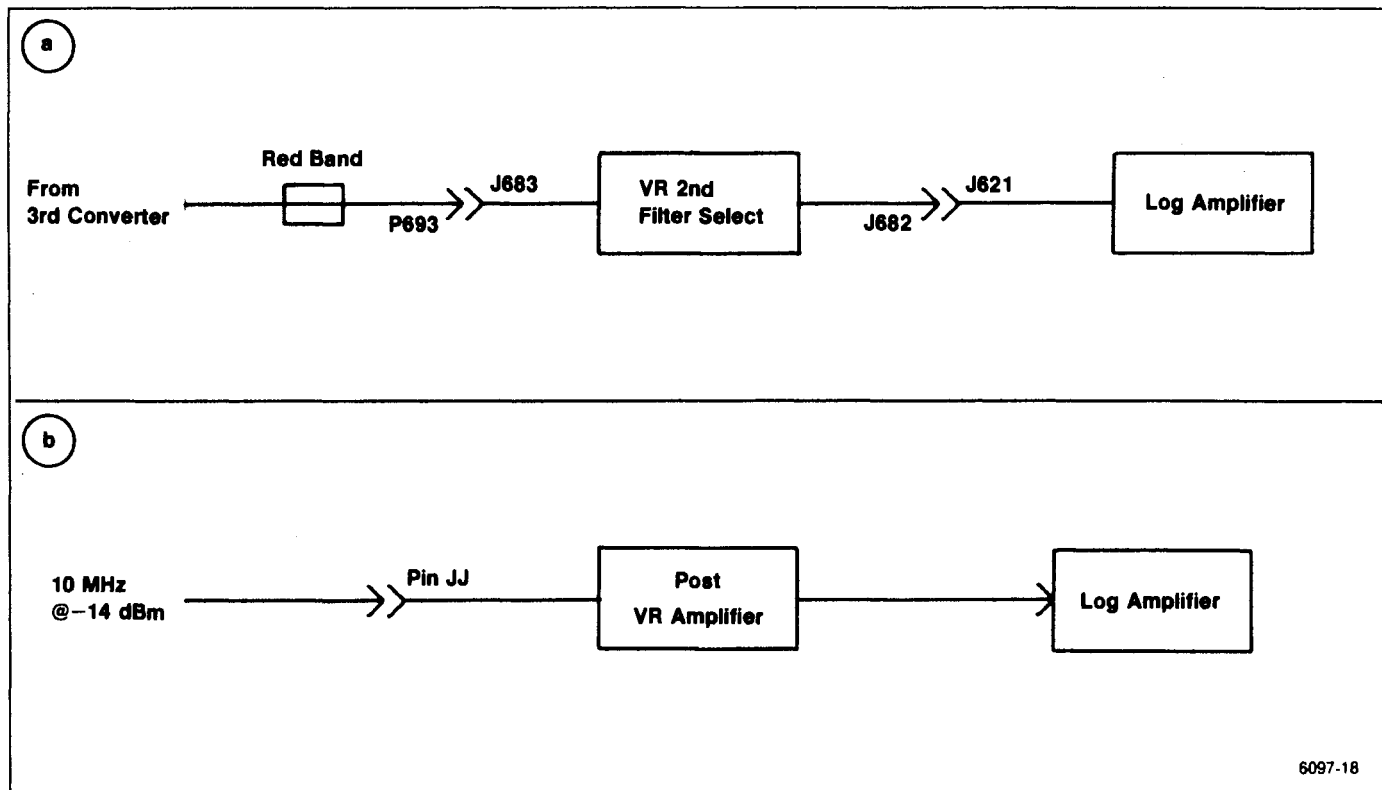
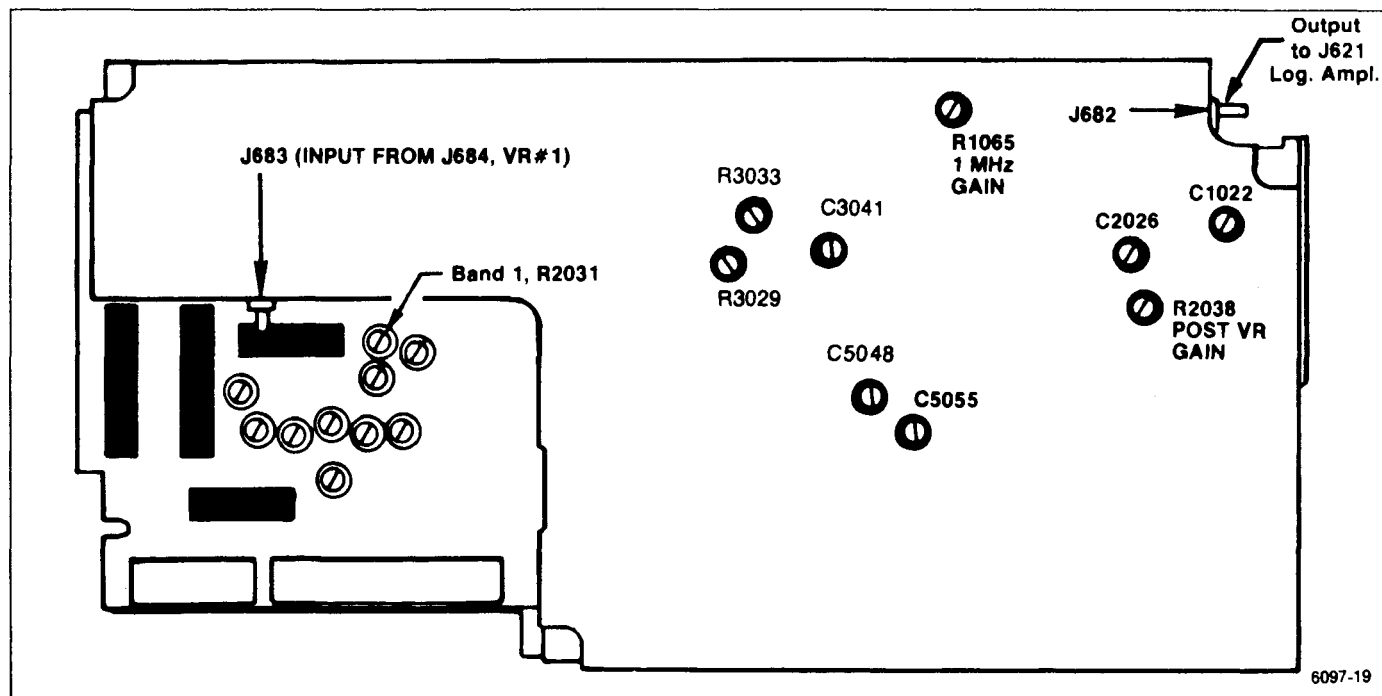
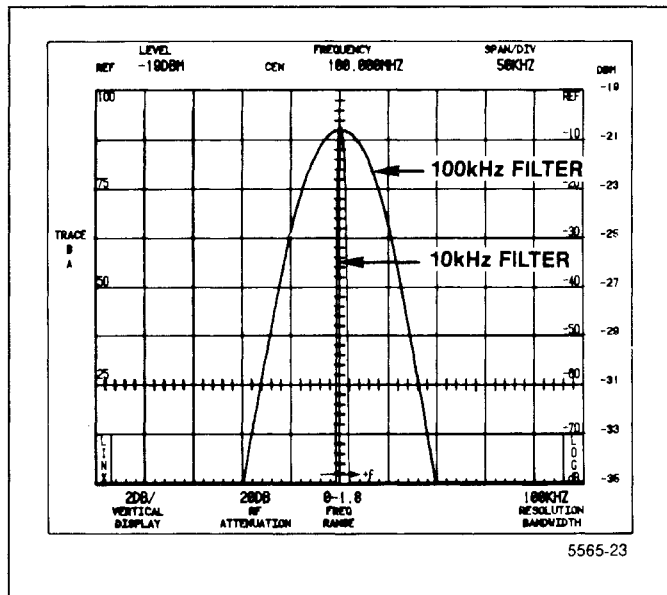
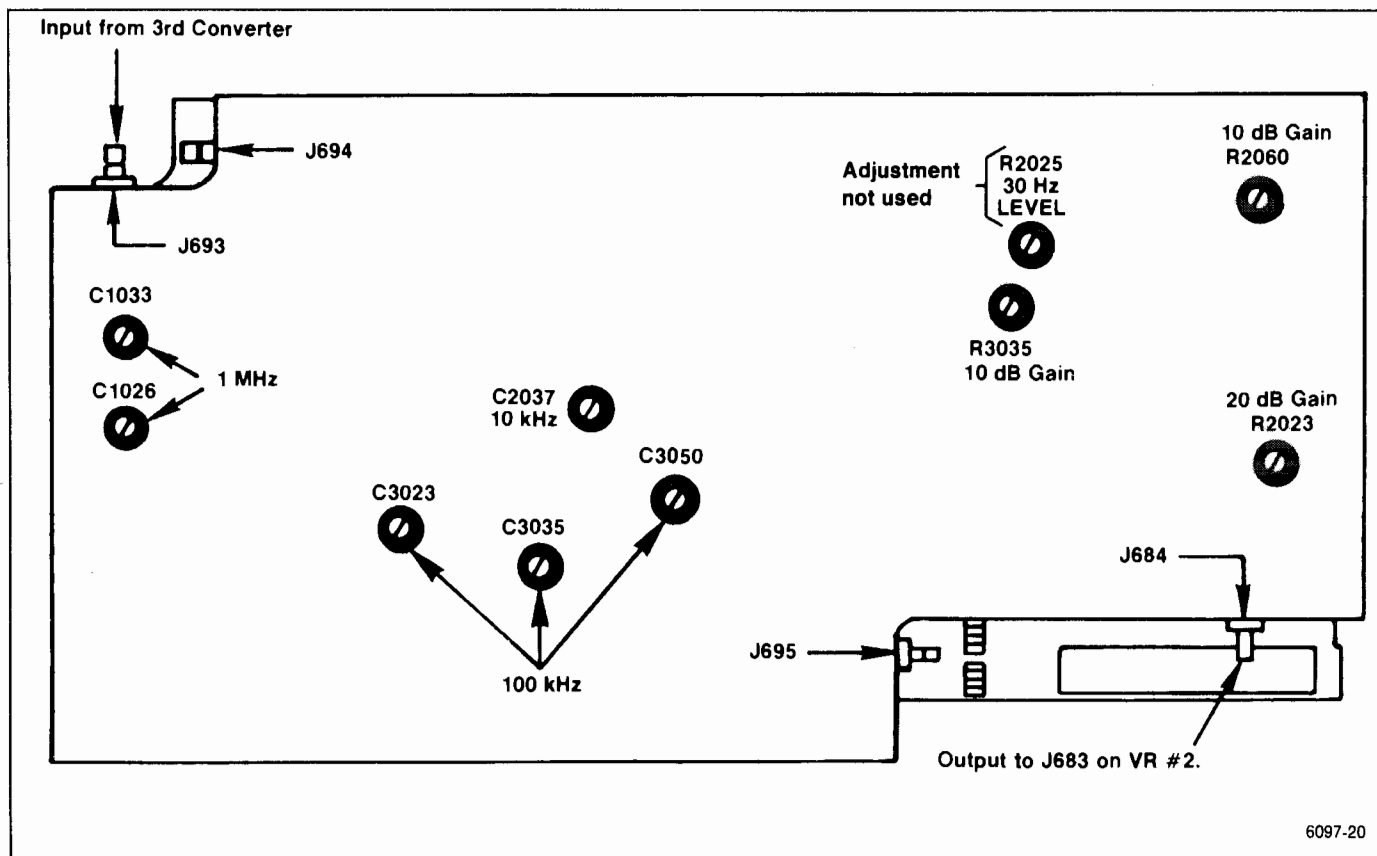

Figure 5-16. Test equipment setup for adjusting the Variable Resolution module.
Figure 5-17. Adjustments on the front of the Variable Resolution module.
Figure 5-18. 100 kHz filter response over 10 kHz filter response.
Figure 5-19. Adjustments on the rear of the Variable Resolution module.
a. Equipment setup is shown in Figure 5-16.
(1) Remove and install the Variable Resolution module on an extender.
(2) Use a Seaelectro male-to-male adapter and coaxial cable to connect the 10 MHz IF output signal, from the 3rd Converter, to the input of the second section (make connection from plug removed from J693 to J683).
(3) Connect the Variable Resolution output to the input of the Log Amplifier assembly by connecting a cable from J682 on the Variable Resolution Module to J621 on the Log & Video Amplifier assembly (see Figures 5-17 and 5-16).
(4) Apply the CAL OUT signal to the RF INPUT, and set the Spectrum Analyzer controls as follows:
d. Adjust C5055, C5048, and C3041 on the VR 2nd Filter Select board (Figure 5-17) for the best 100 kHz filter response (100 kHz bandwidth, 3 dB down, that is centered about the 10 kHz reference). Refer to Figure 5-18.
g. Adjust C2026 and C1022 (Figure 5-17) for the best 1 MHz response centered about the 10 kHz filter response.
h. Disconnect the 10 MHz third converter IF signal from J683 and reconnect it to J693 (see Figure 5-19). Reconnect P683 to J683 (Figures 5-16 and 5-17).
k. Adjust C2037 (Figure 5-19) for the best 10 kHz response centered about the 1 kHz reference.
- n. Adjust C3050, C3035, and C3023 (Figure 5-19) for the best 100 kHz response centered about the 10 kHz filter reference.
- p. Adjust the 1 MHz filter response and centering with C1033 and C1026 in the VR Input board (Figure 5-19). Deactivate SAVE A.
Locations of the adjustments are shown in Figure 5-17.
d. Set the front panel AMPL CAL fully ccw and set the Band 1 Gain R2031 on VR Mother board #2 (Figure 5-17) fully ccw.
e. Disconnect P693 (Figure 5-19) and activate MIN NOISE. Apply a 10 MHz,  $-25$  dBm signal, from the signal generator, through a bnc-to-Seaelectro adapter to J693. Set the generator frequency to peak the signal amplitude. (Signal amplitude should be between 3.5 and 6.5 divisions. If signal amplitude is not within these limits it indicates a gain problem in the Variable Resolution module.)
f. If the signal amplitude is over 5 divisions, adjust the Post VR Gain R2038 (Figure 5-17) for a 5 division signal amplitude.
h. Switch MIN NOISE off, decrease the generator output to  $-35$  dBm, leave the REF LEVEL at  $-20$  dBm, and adjust the 10 dB Gain R3035, on the 10 dB Gain board (Figure 5-19) so the signal amplitude is 7 divisions.
i. Change the generator output to  $-45$  dBm, the REF LEVEL to  $-40$  dBm, and adjust the 20 dB Gain R2023 on the 20 dB Gain Step board (Figure 5-19) for a
j. Change the generator output to  $-65$  dBm, the REF LEVEL to  $-60$  dBm, and adjust the 10 dB Gain R2060 on the 20 dB Gain Step board (Figure 5-19) for a 7 division signal amplitude.